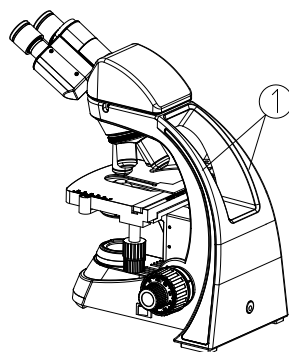

Fig.1
3. When moving the microscope, use both hands to hold its arm ①, and lay it down carefully (see Fig. 1).